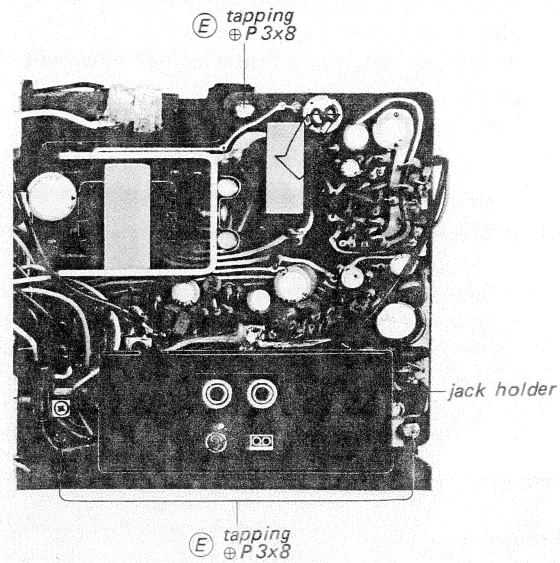

Fig. 2-7. I-f/af circuit board removal
- 2. Pull off the jack holder shown in Fig. 2-7.
- 3. Remove the three screws marked ② in Fig. 2-7.
- 4. Pull out the i-f/af circuit board carefully in the direction shown by the arrow in Fig. 2-7.